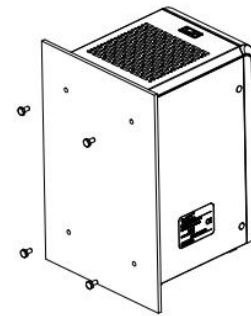

Figure 4.3 Screws installation
2. Uninstallation (Figure 4.3): (1) Pull down the controller.
1. Installation (Figure 4.3):